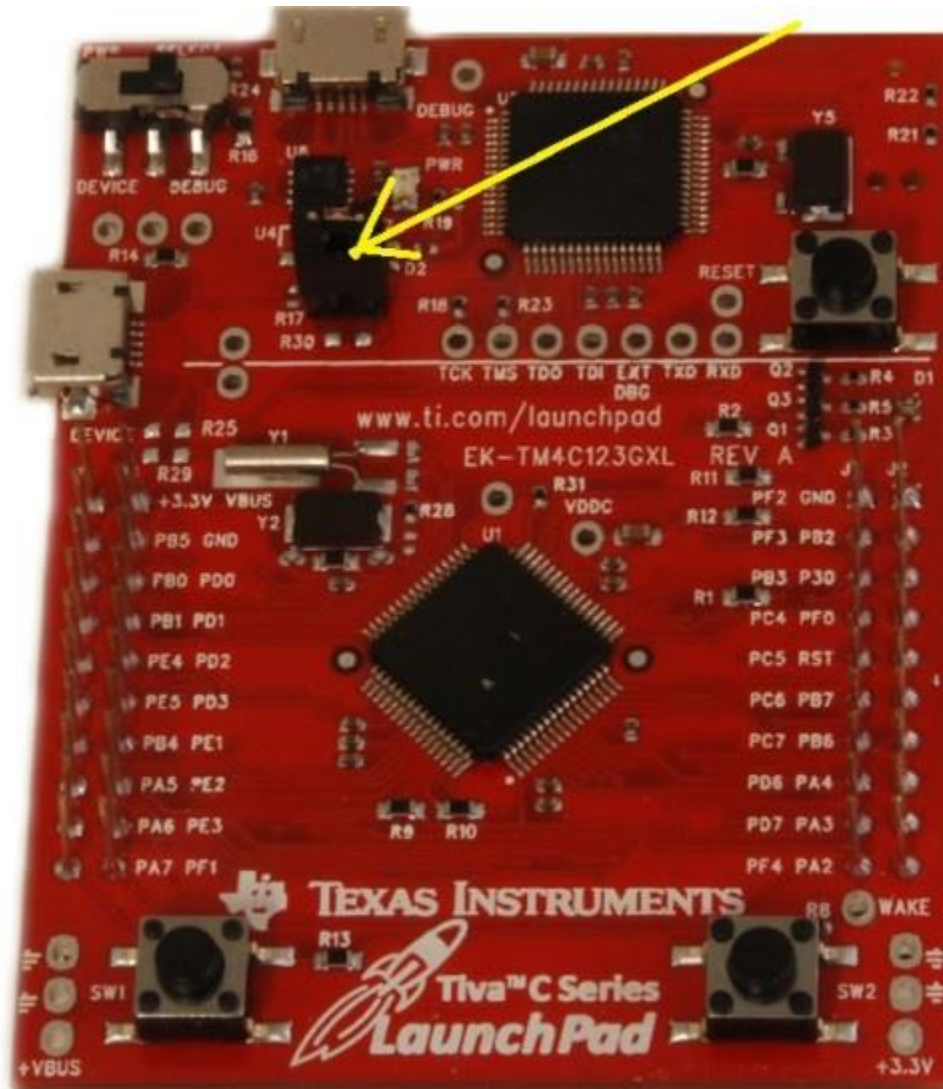

Figure 3.4. Use a current meter to measure required current to run the clock.
4. Measure the 3.3V supply current. Remove the jumper on the LaunchPad (see Figure 3.4) and connect a DC current meter across the pins. Double check the connections before turning it on. If you are at all unsure about this measurement, ask your TA for help. Measure the required current to run the alarm clock. Take a measurement with and without the alarm sounding. *Remember these numbers; they will be valuable when you design your project in Labs 6 and 7.*